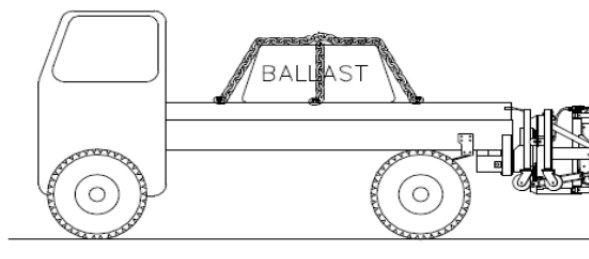

Figure 7
8. Ballast and other heavy objects **MUST BE ADEQUATELY ANCHORED** to the truck to prevent shifting during an impact (See Figure 7). The force exerted on the tie-down straps could be 20 times the weight of the ballast.